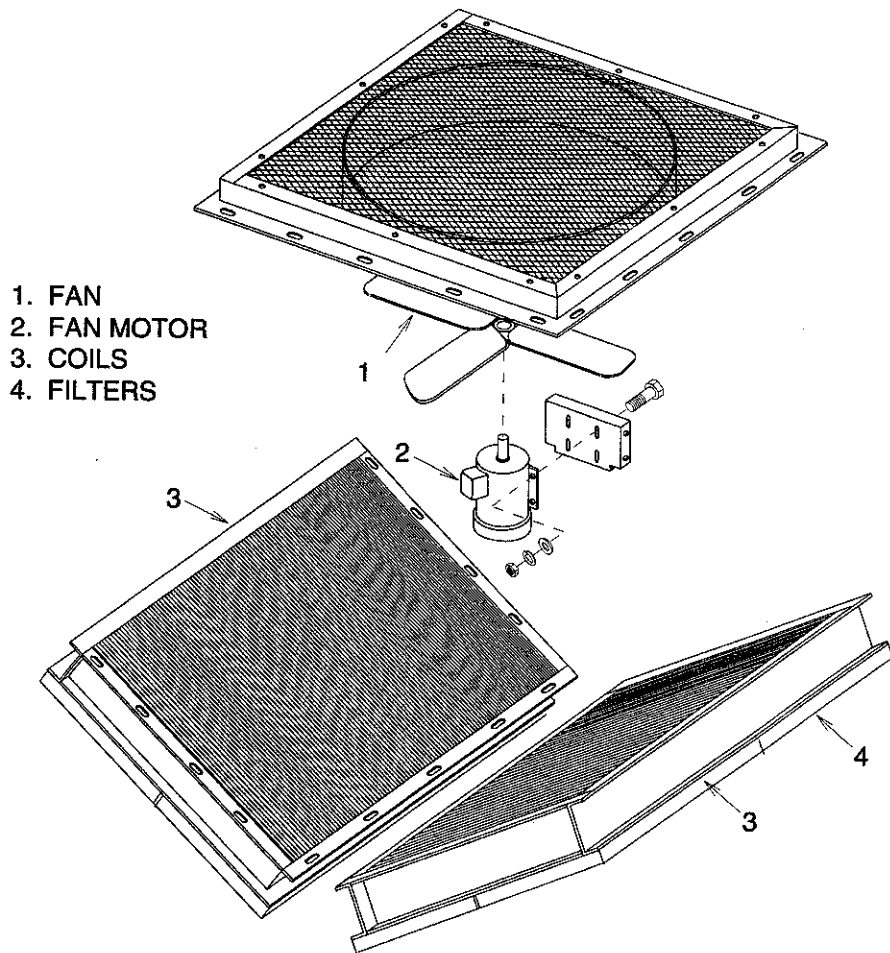

Figure 3-2. Condenser Components
c. Check condenser fan (1, fig. 3-2) mounting and bearings.